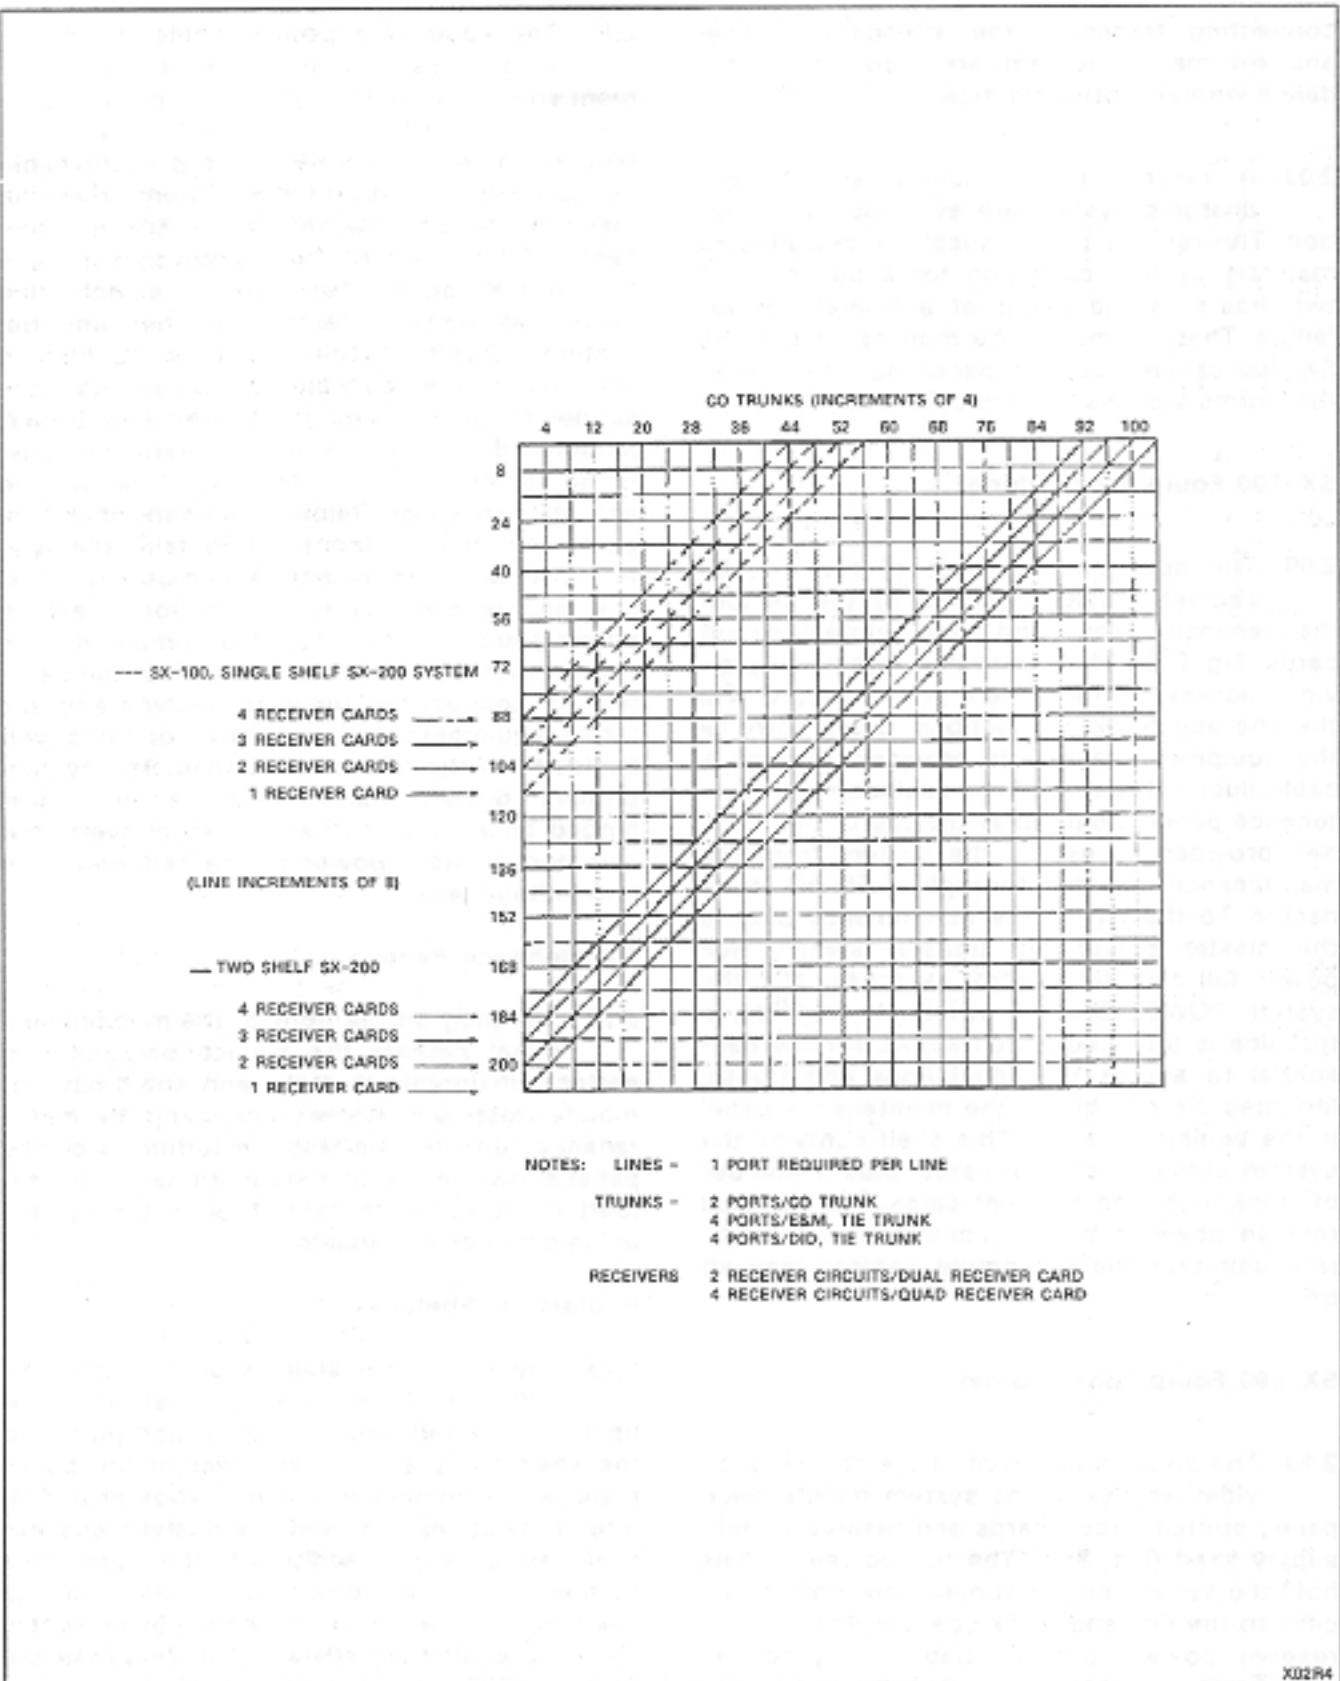

Fig. 2-1 Maximum Line and Trunk Configuration
2.01 The SX-100 and SX-200 are advanced Electronic Private Automatic Branch Exchanges (EPABX's) employing digitally controlled solid-state space-division switching, and stored program control. In the SX-100, there are 112 ports available for assignments to lines, trunks and receivers. The remaining 48 ports are reserved for control and special functions. In the SX-200, 208 ports are available for assignments to lines, trunks and additional receivers. There are 48 ports reserved for control and special functions. Fig. 2-1 shows the maximum line and trunk configurations for the SX-100 and SX-200. The SX-100 and SX-200 are electrically compatible with most existing extension, key telephone, Private Branch Exchange (PBX) and Central Office (CO) equipment, and provides: